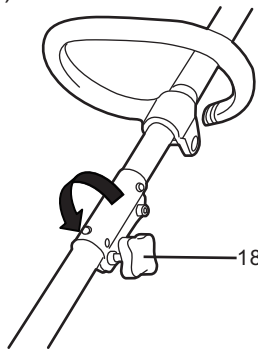

Fig. 2c
- > Tighten the locking knob [18] anticlockwise to secure the connection (Fig. 2c).